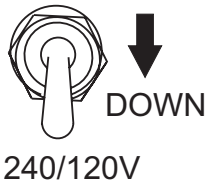

Figure 24. Full Power Switch 240/120V Position (Down)
- Place the full power switch (Figure 24) in the 240/120V position (down).